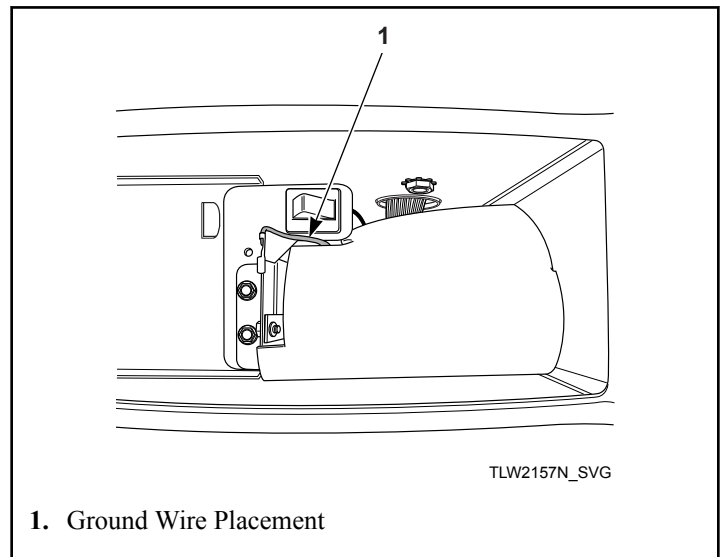

Figure 18
7. Before installing coin slide and extension, make sure ground wire is tucked under control shield to provide clearance for coin slide. Refer to *Figure 18*.